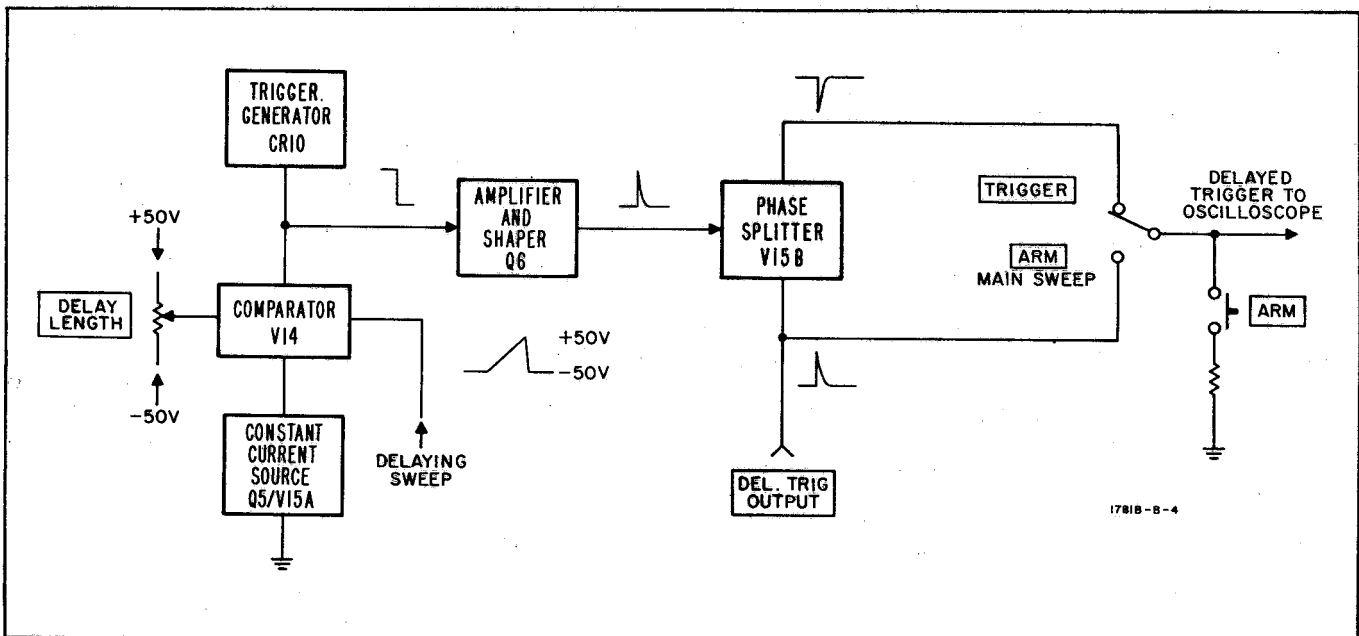

Figure 4-3. Delayed Trigger Generator
**4-23. DELAYED TRIGGER.** The delayed trigger generator is shown in figure 5-10. A simplified block diagram is given in figure 4-3. In the absence of an input signal, pin 2 of V14 is at -50 volts, and that section of the dual triode is cut off. All current supplied by constant-current generator Q5/V15A flows through the left section of V14. The voltage at the common cathodes of V14, and thus the cut-off bias of the right section, is set by LENGTH control. The delay period is the time required for the delaying sweep to rise from the quiescent level (-50 volts) to the level which will cause the right half of V14 to conduct. The left section is quickly cut off and the full current supplied by the constant current source flows through the right section. The sudden surge of current through tunnel diode CR10 switches the diode, producing a sharp negative voltage step which will become the delayed trigger. The retrace slope of the delaying sweep cuts off the right-section again, thus returning the circuit to the original condition.